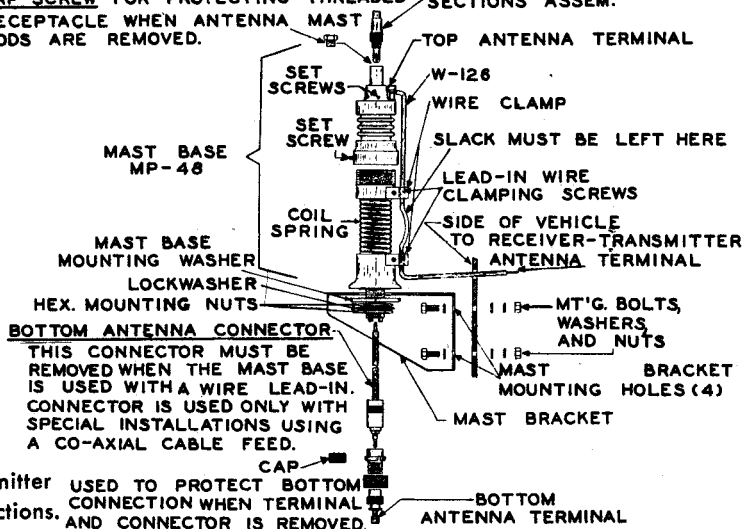

Fig. 4.—Vehicular antenna assembly.
2. For vehicular service, use mast type antenna consisting of Mast Section MS-53 screwed into Mast Base MP-48, and Mast Section MS-52 into the top of MS-53, followed by MS-51. The connecting wire, W-126, from the antenna mast to the antenna terminal of the radio set, should be three feet, ± one inch. SEE FIG. 4